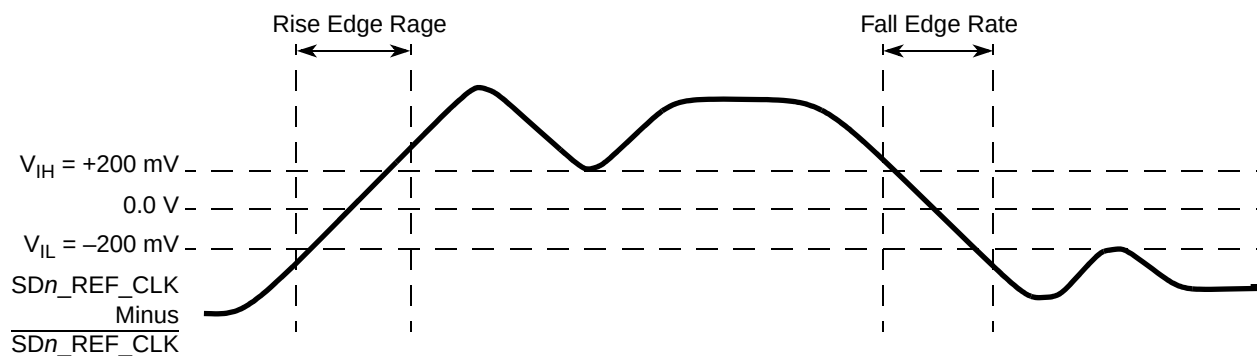

Figure 31. Differential Measurement Points for Rise and Fall Time
3. Measured from –200 to +200 mV on the differential waveform (derived from $\overline{\text{SDn_REF_CLK}}$ minus SDn_REF_CLK). The signal must be monotonic through the measurement region for rise and fall time. The 400 mV measurement window is centered on the differential zero crossing. See Figure 31.